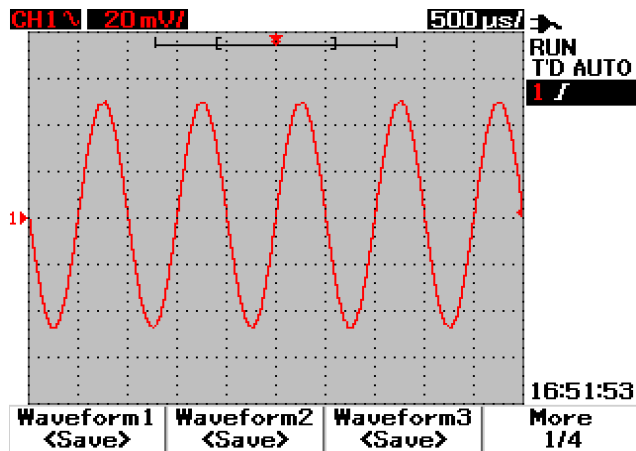

Figure 3-42 The <Save> display indicates no waveform is being saved, you can press F1 to save the waveform into Waveform 1.
- 5 Press F1 again to load the Waveform 1 from the internal memory. Refer to Figure 3-42.